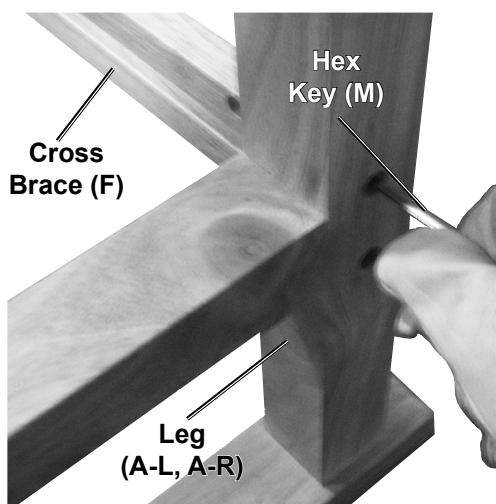

Figure 2
2. Set the Cross Brace against a Leg (A-L) and use the Hex Key (M) and Bolt (K) to fasten the Cross Brace and Leg together. See Figure 2, below.